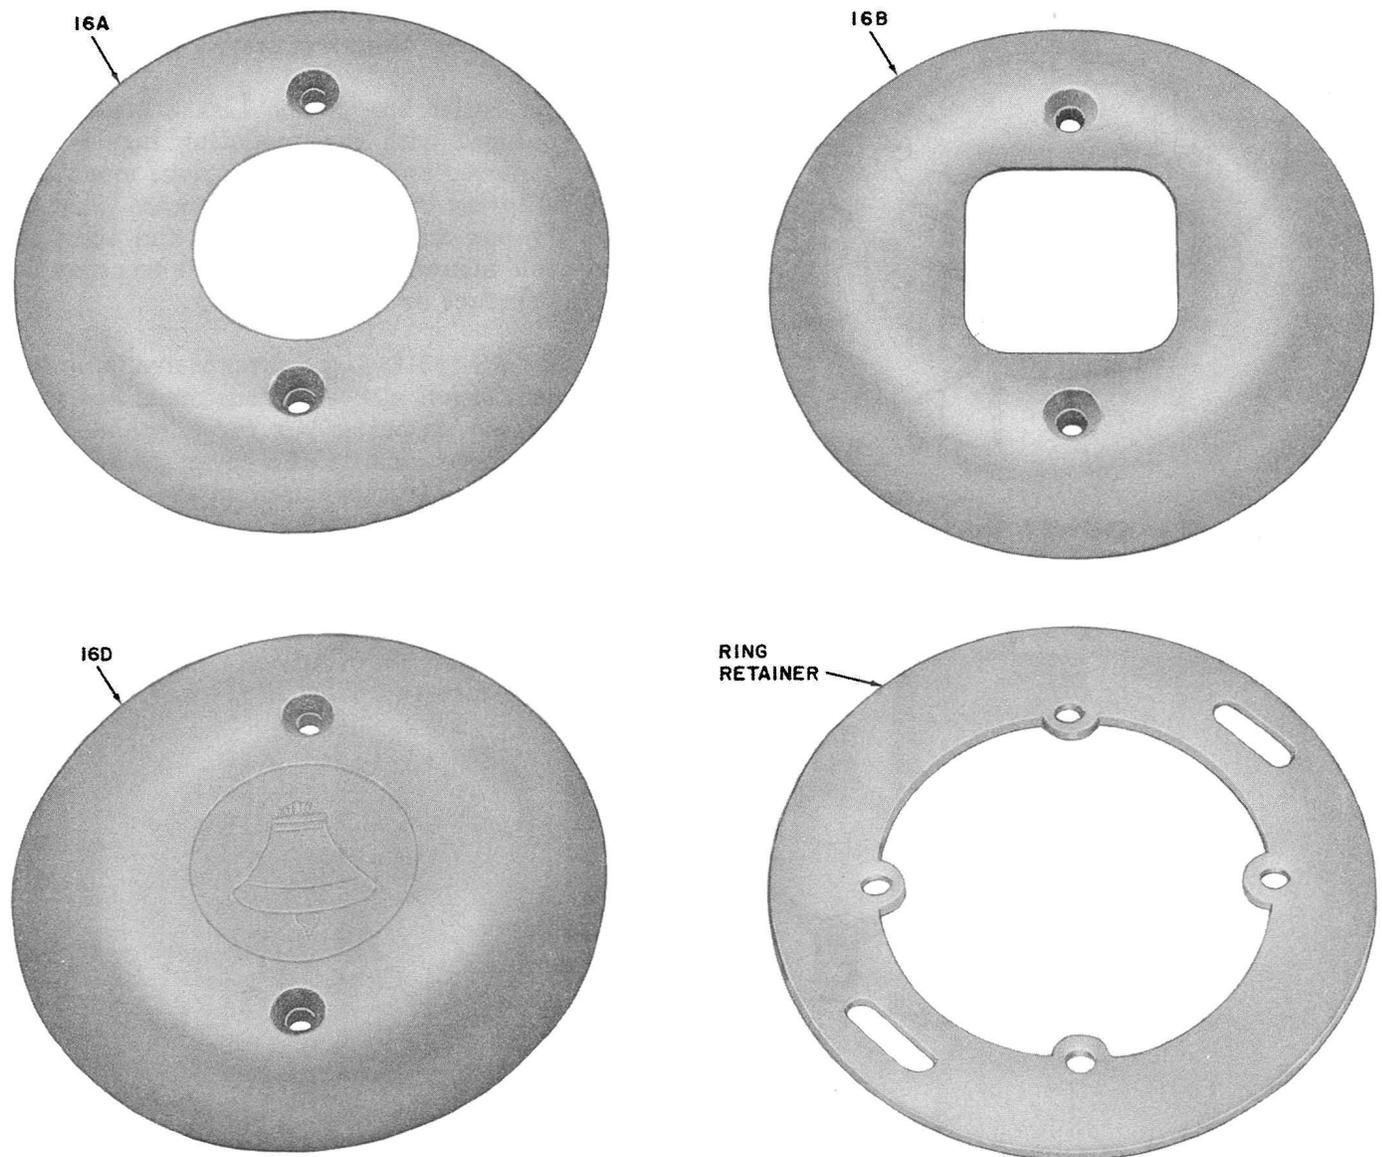

Fig. 26 — 16-Type Faceplate
**3.03** The 16-type faceplate (Fig. 26) consists of a colored plastic plate arranged for a jack or a connecting block and a metal ring which is arranged for mounting to a 63A bracket. Six screws are provided for mounting the metal ring to a jack or connecting block; attaching the ring to the 63A bracket, and for mounting the faceplate to the metal ring. The 16D faceplate has the Bell System emblem embossed in the center and is used to cover openings at unused 63A brackets. The 16-type faceplate is available in colors to match jacks with which it is used. The 16-type faceplate may also be used with the KS-19407, List 1 bracket, in which case the metal ring is not required.